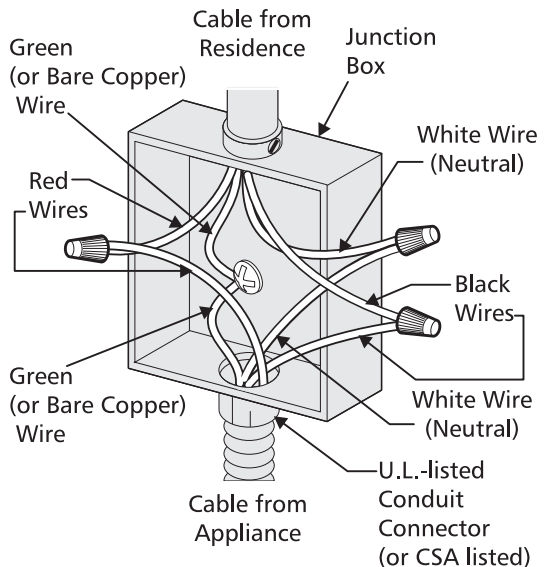

Figure 6 – 4-Wire Electrical System
Where local codes **DO NOT** permit connecting the appliance-grounding conductor to the neutral (white) wire, or if connecting to 4-wire electrical system (see Figure 6):
3. In the circuit breaker, fuse box or junction box: connect appliance and residence cable wires as shown in figure 6.